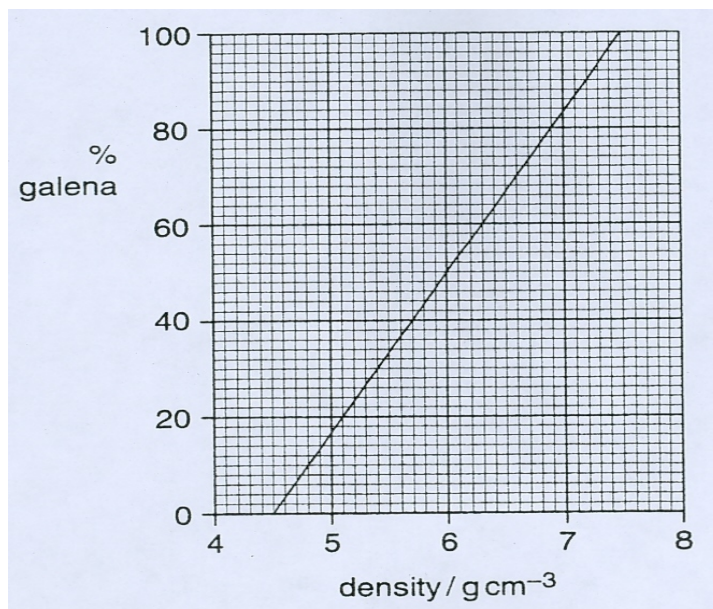

Fig. 2.1
- (d) Samples from the lead mine consist of galena (lead sulphide) contaminated with barytes. Brian analyses his samples and constructs a graph, Fig.2.1, which shows how the density of his sample is related to the percentage of galena present.
Use the graph, Fig.2.1 to find the % of both galena and barytes in this rock.
Brian analyses his samples and constructs a graph, Fig.2.1, that shows how the density of his sample is related to the percentage of galena present.